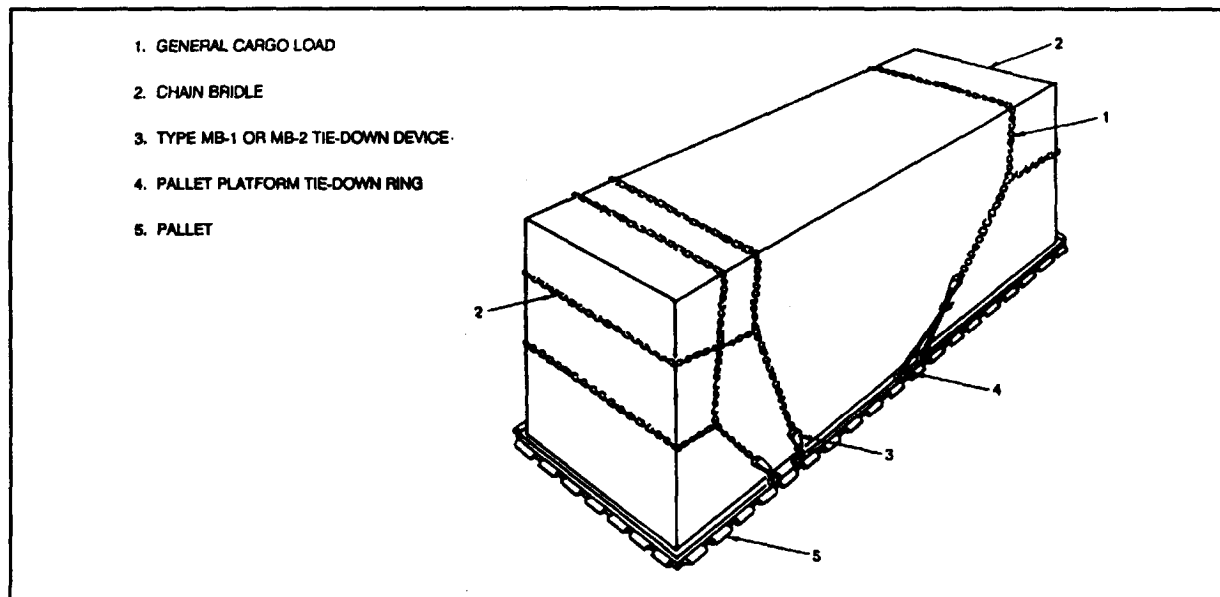

FIGURE 4-9. Barrier and Chain Gate.
a. Use a barrier and chain gate (Figure 4-9) for loose, heavy items such as lumber and pipes.
e. Use chains for heavy items such as large boxes and vehicles (Figure 4-9).